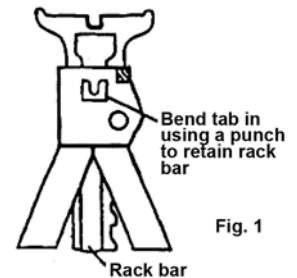

Fig. 1
1. Check to make sure retaining tab on stand collar is bent in to keep rack bar from being pulled out. If tab is not bent in, bend using a punch and hammer. See Figure 1.